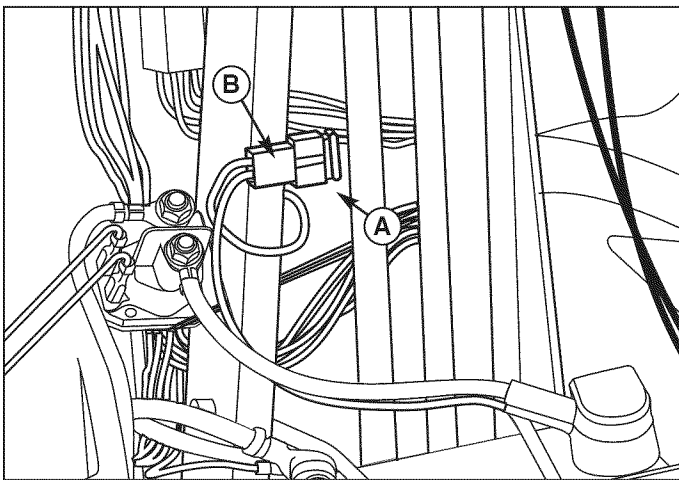
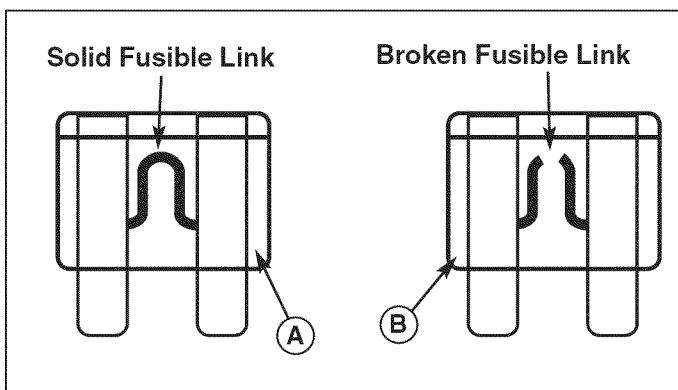

Figure 23. Fuse
Figure 24. Blade Type Fuse
1. Open the hood and locate the fuse holder (B, Figure 23) and fuse (A). Attached to the steering tower.
2. Hold the fuse holder (B) and pull out the fuse (A).
3. Inspect the fuse for a broken connection (see Figure 24). Replace fuse if connection is broken. If you are not sure if connection is broken replace fuse.
4. Hold the fuse holder (B) and insert new fuse (A) until it is seated properly.